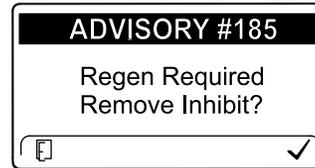

Figure 34
**Note:** If you set the InfoCenter to inhibit regeneration, the InfoCenter displays ADVISORY #185 (Figure 34) every 15 minutes while the engine requests a reset regeneration.